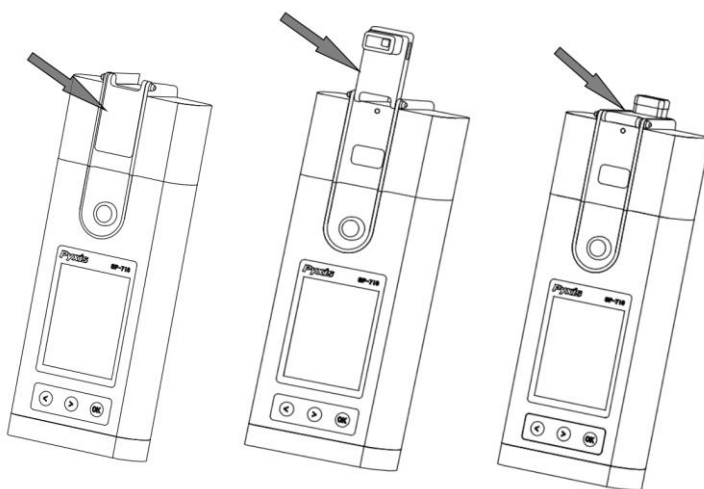

Figure 5. Turn on pH/ORP module with the seal
1. Lower the rubber seal down to touch the front face of the pH/ORP module (Figure 5). This is to power on the module. The indicator light of the module will be **green** and flashing when powered on. After the module is turned on, the seal can be positioned anywhere desired. If the module battery capacity is low, the indicator light will flash **red**.